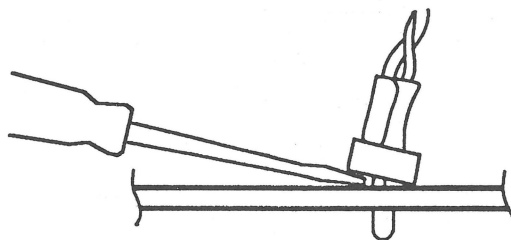

FIGURE 13
4. Pry the small plastic retaining ring from around the LED holder with a jeweler's screwdriver (Figure 13). Slide the retaining ring up the wires and out of the way.